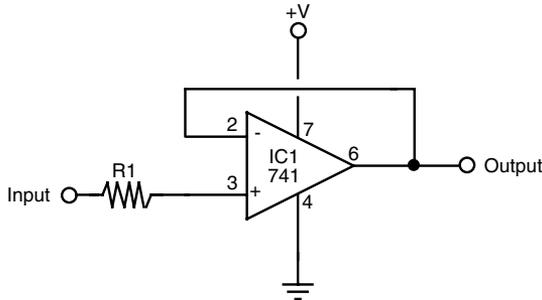
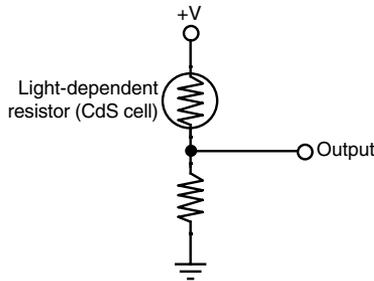

FIGURE 29.17 Op-amp buffer.
FIGURE 29.18 Voltage divider.
The op-amp, as shown in Fig. 29.17, is but one common way of providing high-impedance buffering for inputs to control electronics. R1 sets the input impedance. Note that there is no R2, as in Fig. 29.18. In this case, the op-amp is being used in *unity gain* mode, where it does not amplify the signal.
Figs. 29.18 and 29.19 show common interfaces for analog inputs. These can be connected to analog-to-digital converters (ADC), comparators, buffers, and the like. The most common interfaces are as follows:
- Like a phototransistor, the output of a *photodiode* is a varying current. This output can also be converted into a voltage by using a resistor (see Fig. 29.18). (The higher the resistance, the higher the sensitivity of the device.) This output tends to be fairly weak—on the order of millivolts instead of volts. Therefore, amplification is usually required.